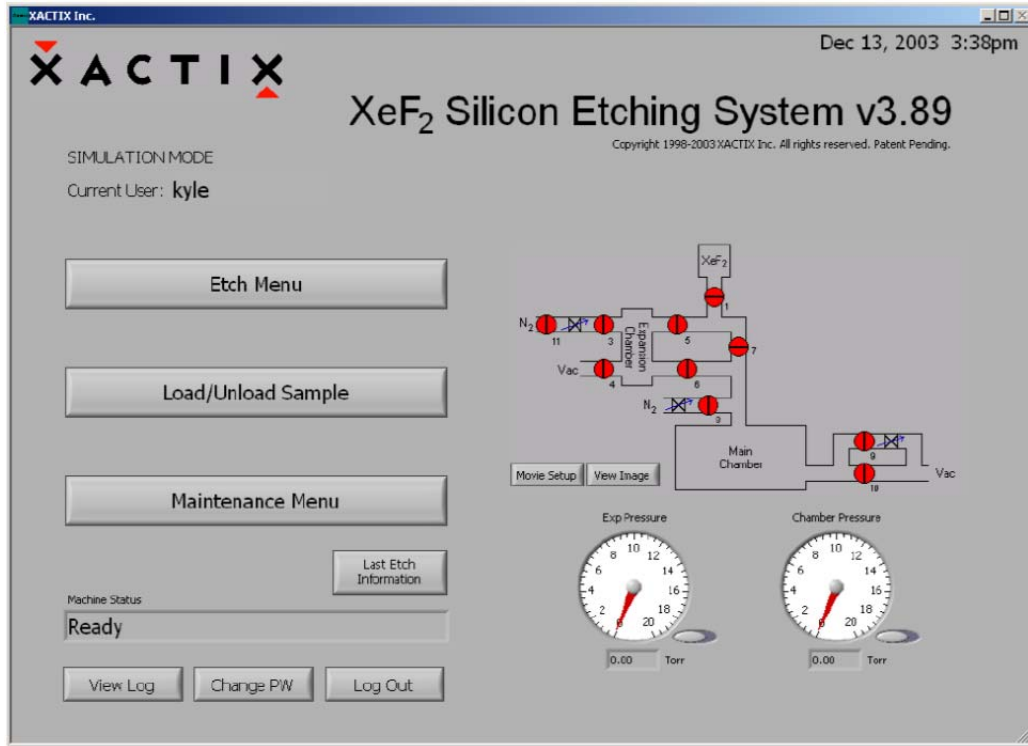
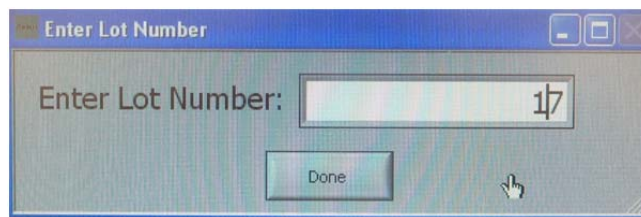

Figure 2: software main screen after user logging in.
Figure 8
2. After logging in, the software main screen will be displayed, as shown in Figure 2. A schematic for the machine is shown on the right side. The red dots denote closed valves, while green dots represent open valves. Pressure gauges for the main chamber and the expansion chamber are at the bottom right. Two options, “**Etch Menu**” and “**Load/Unload Sample**”, are available on the main screen for users.
- 1) After the chamber pump-down, it will go back to the main screen, and the Machine Status information box at bottom left will show “Ready”(Figure 2). Press the “**Etch Menu**” button. You will be prompted to enter a Lot Number, as shown in Figure 8. Put any number here or just click the “**Done**” button.